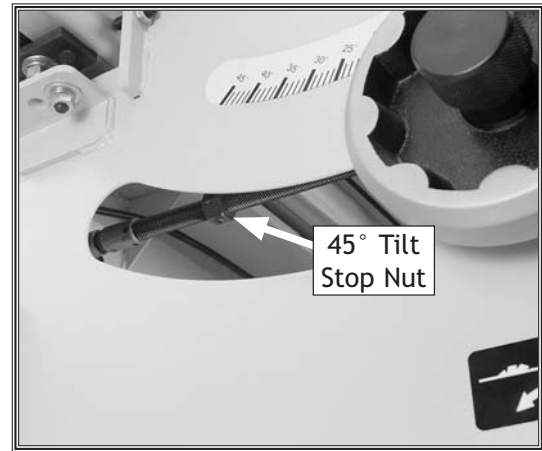

Figure 98. 45° Blade tilt stop nut.
- If the blade is not 45° to the table, loosen the two set screws that secure the 45° tilt stop nut shown in **Figure 98**. (This nut can also be accessed from the front of the saw by moving the sliding table all the way forward.)